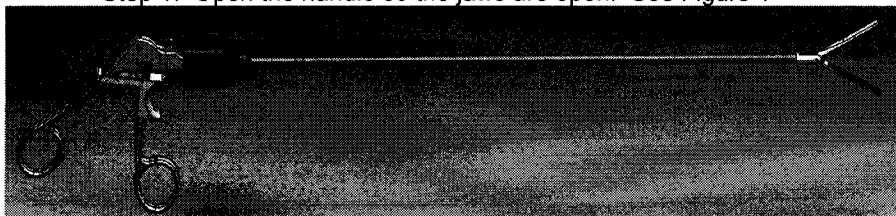

Figure 1
Step 1: Open the handle so the jaws are open. See Figure 1